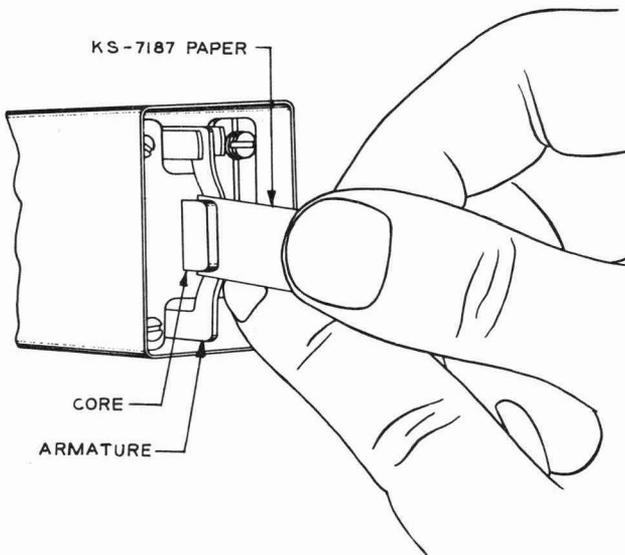

Fig. 44 – Method of Cleaning Armature and Core on B- and G-type Relays
7.04 Armatures, Cores, or Pole Pieces of B-, G-, J-, L-, N-, S-, 177-, 203-, 221-, 222-, 223-, 224-, 225-, 247-, 248-, 251-, and 252-type Relays: Proceed as covered in 7.03 using KS-7187 paper instead of KS-7188 paper (see Fig. 44, 45, and 46).